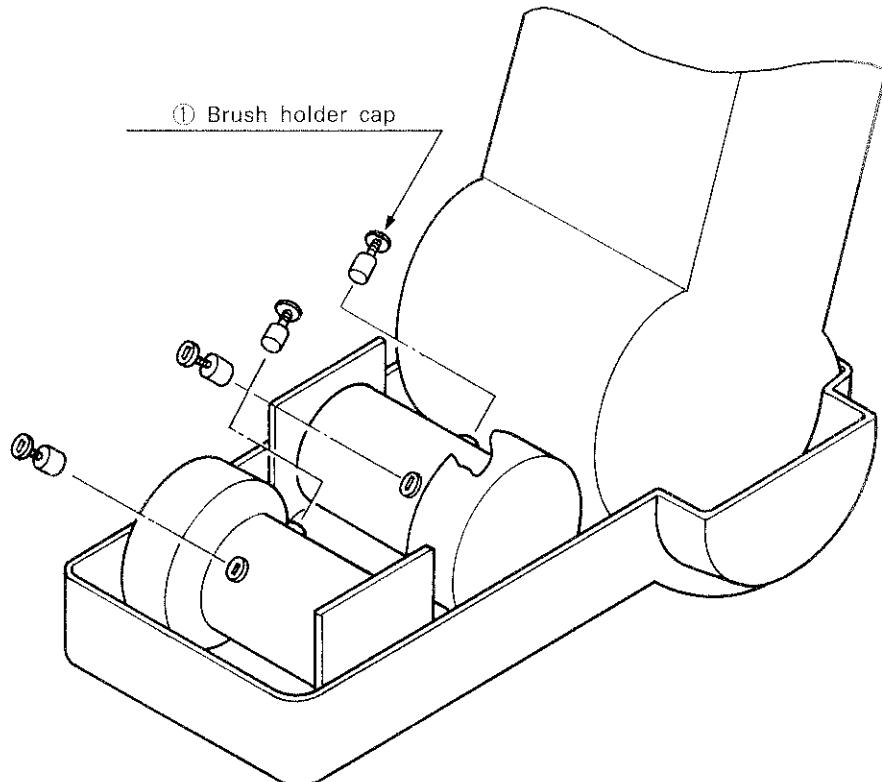

Fig. 4.3.5 Checking and Replacing the Shoulder/Elbow Drive Motor Brushes
- (1) Fig. 4.3.5 outlines the inspection and replacement procedures of the shoulder and elbow drive motor brushes.
- (2) Remove the upper shoulder cover by referring to 3.2 Removal of the Covers.
- (3) Following steps (3) to (6), A. Inspection, given under 3.3.1 Checking and replacing the waist drive motor brushes, check the brushes.